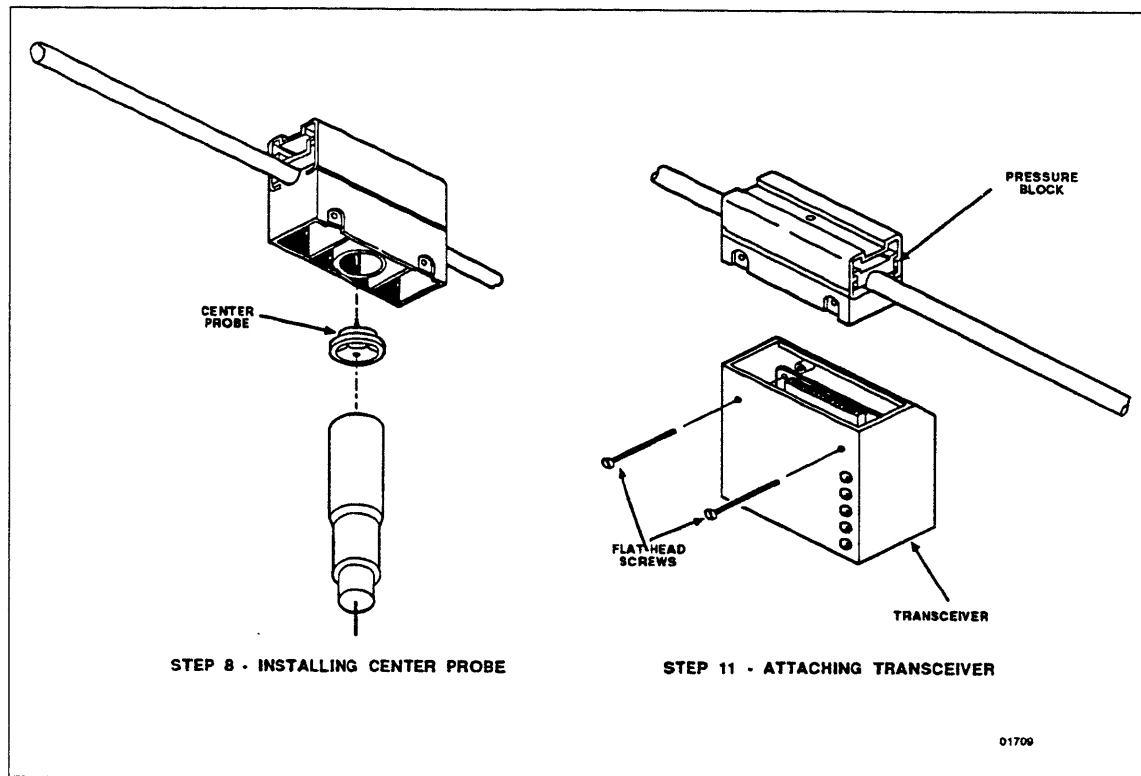

Figure 2-8. TN111B Transceiver and YA331A Tap Installation - Part 2
8. Using socket wrench end of hand tool, thread center probe assembly into central hole of cable bed and tighten snugly (see figure 2-8).
10. Remove screws from side of transceiver (figure 2-8).